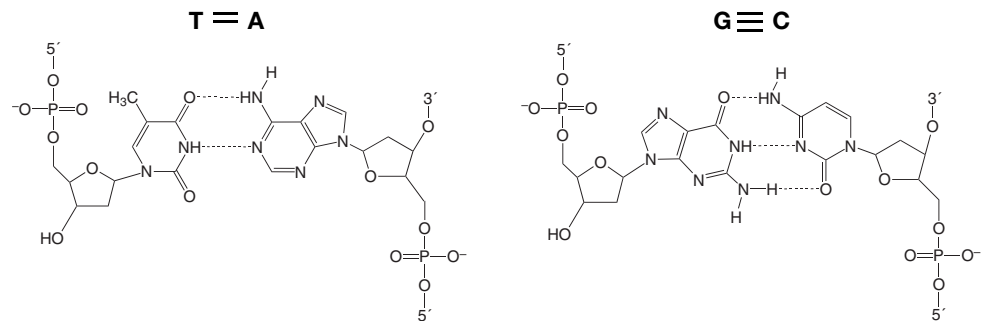

Figure 3 Base complements
The DNA sequence is copied with high fidelity because at each base on the DNA template, DNA polymerase incorporates only the nucleotide that is complementary to that base. Thymine (T) is complementary to adenine (A) and guanine (G) is complementary to cytosine (C) because they can form hydrogen bonds with each other (Figure 3).